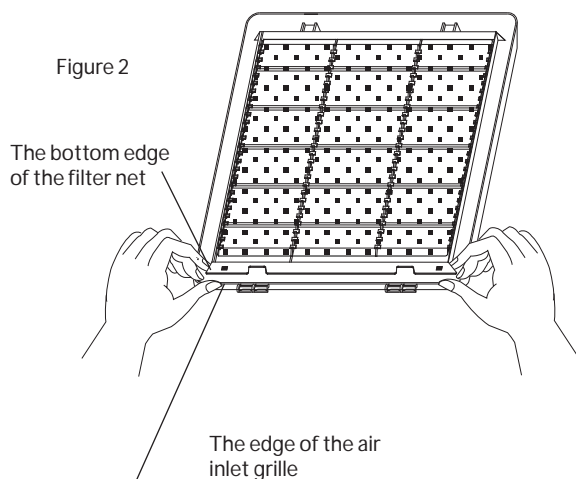

Figure 2
2. Remove the air filter (Fig. 2):